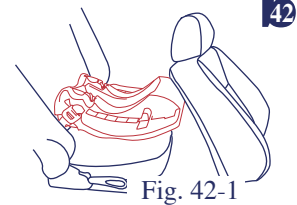

Fig. 42-1
- 15.1.5) Check that the vehicle seat back is locked in the upright position and will not fold forward onto the Safety Seat. (See Figure 42-1)